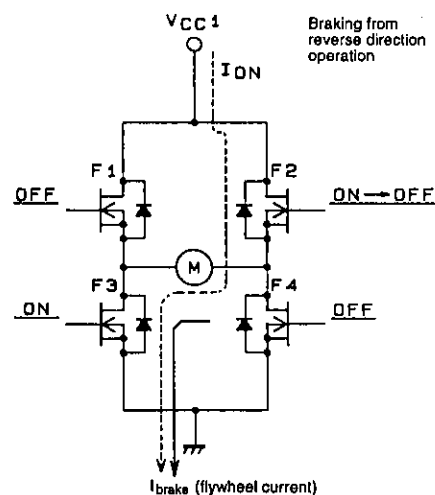

Figure 11. Brake mode (b) current flow
- In brake mode (b), the motor rotational current just prior to the application of the control signals dissipates through the lower MOSFET, as shown in Figure 11, to stop the motor (Free Running Motor Stop). There is thus no overload condition, but braking takes longer.